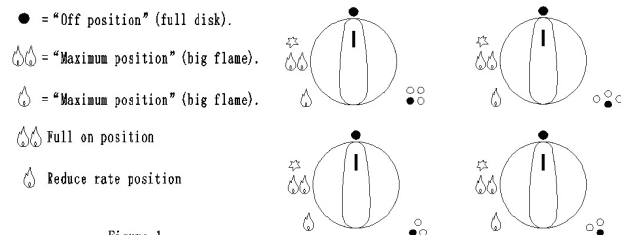

Figure 1
- Press and turn anticlockwise the knob corresponding to the burner you wish to use from "Off" position (full disk symbol on control panel), until it reaches the "Maximum" position (fig. 1) corresponding to the big flame and place a lighted match close to the burner.
- The command of lighting is integrated in the control knob. Press and turn anticlockwise the knob corresponding to the burner you wish to use from "Off" position (full disk symbol on control panel), until it reaches the "Maximum" position (fig. 1) corresponding to the big flame with little star. Automatically the ignition spark shoots; keep the knob pressed until flame ignition. Matches can be used to light the burners in a blackout.